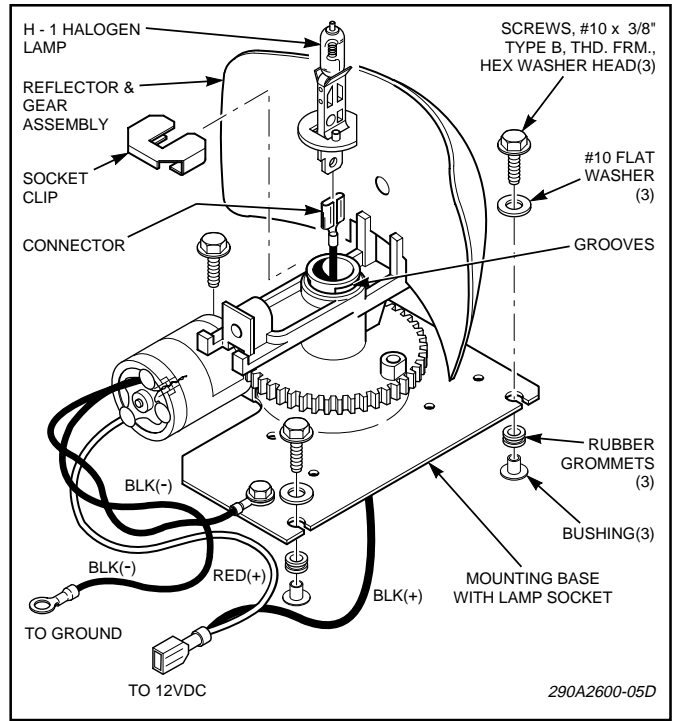

Figure 3.
7. Secure the rotator assembly to the extrusion with three #10 hex hd. thd. form. screws, #10 flat washers, rubber grommets, and bushings as shown in figure 3.
8. See figure 3. Connect the female terminal on red and black wires of rotator assembly to suitable 12VDC source. Properly ground the black motor wire with the ring terminal to the extrusion.
9. Install the reflector and gear assembly on the rotator assembly in the position shown in figure 3.
11. See figure 3. Install the new H-1 halogen lamp. When installing, ensure that the lamp is secured to the connector and that the clip is properly seated in the grooves on the lamp socket.